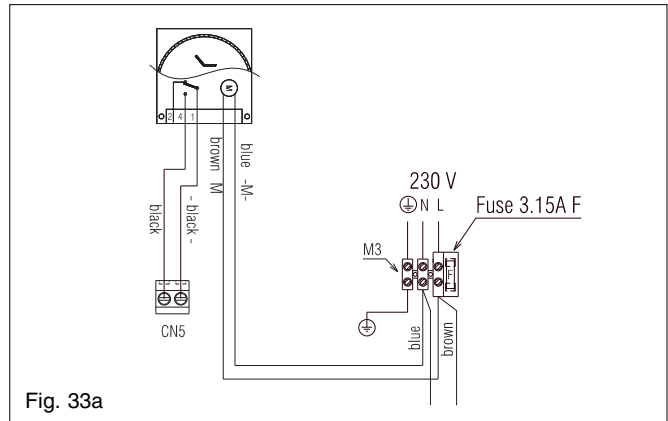

Fig. 33a
- single-channel, voltage-free time clocks (fig. 33a)